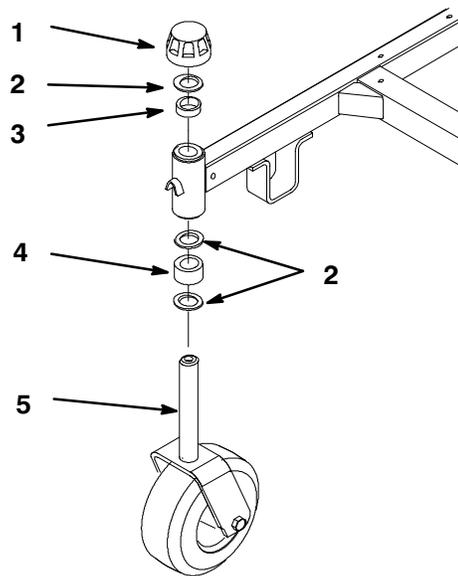

Figure 71
2. Remove the cap, thrust washer and 1/2" spacer from the top of the castor wheel fork (Fig. 71).
6. Inspect the castor wheel fork for wear and replace if necessary (Fig. 71).
7. Slide the castor wheel fork through the bushings in the castor hub. Replace the 1/2" spacer and thrust washer onto the fork and secure with the cap (Fig 71).